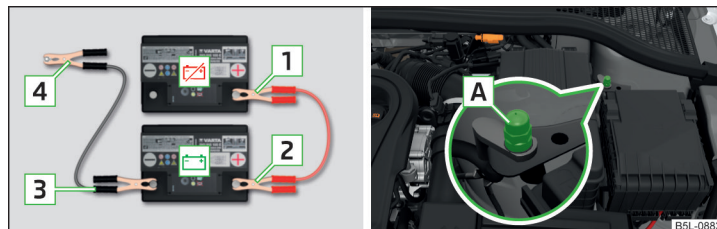

Fig. 178 Jump-starting: ☒ - Discharged battery, ☒ - power-supplying battery / ground point of the engine for the START-STOP system
- For vehicles **with** the START-STOPsystem, attach clamp **4** to the earth point of the engine **A** » Fig. 178.